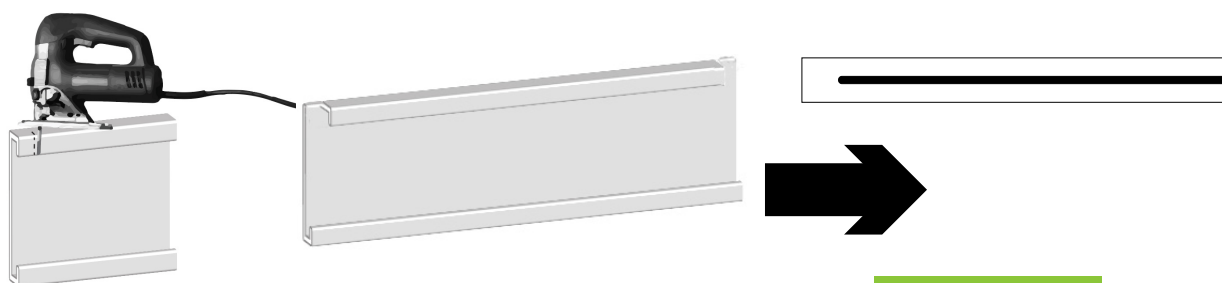

Fig. 11
1. Make a 1" notch on each end of the first picket as shown below (see Fig. 11).
2. Remove the horizontal rail and slide the picket onto the rail with the notches facing upwards (see Fig. 11). With picket in place, drop the rail back over the brackets, being sure to face the picket knuckles toward the vertical back rail (see Fig. 12).